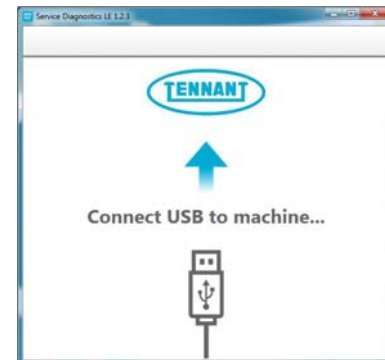

Fig. 2
3. After software start up, the following screen will appear (Figure 2).